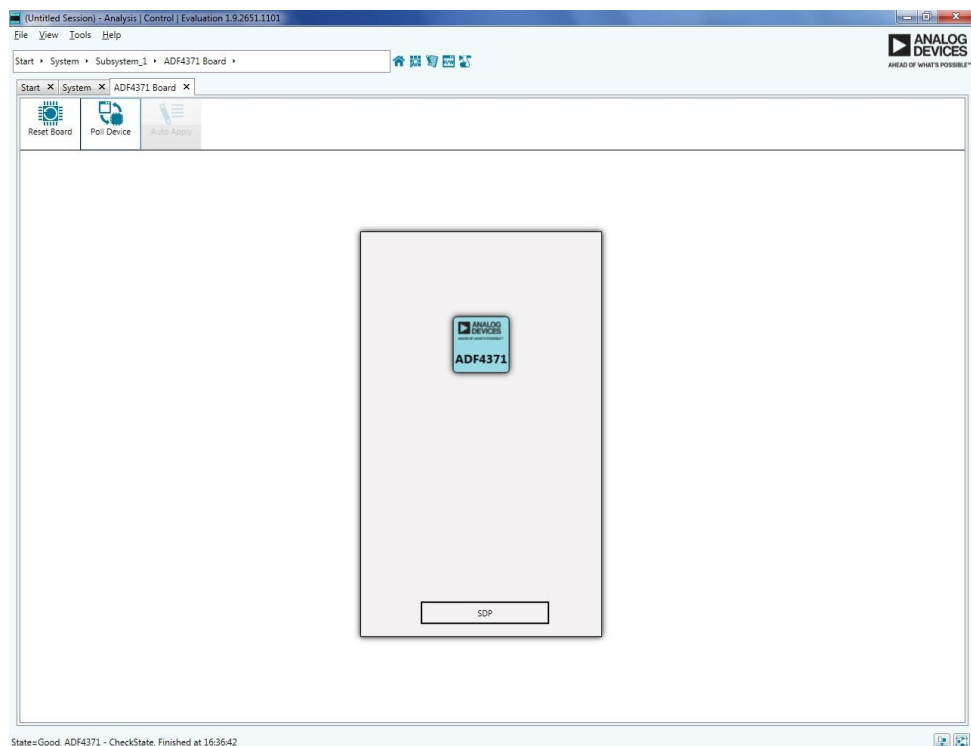

Figure 5. ACE Board Page, Device Selection
2. Double click the **ADF4371 Board** icon, and the tab shown in Figure 5 appears.